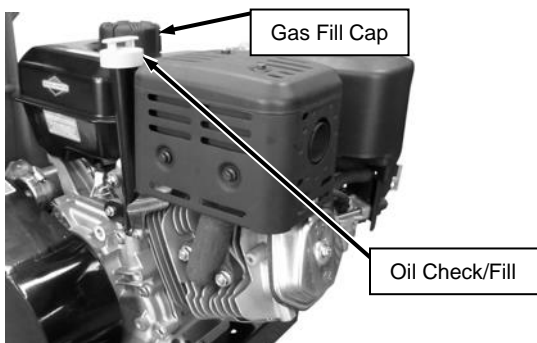

Figure 20a: WC475 Model
- Place the machine on a level surface and remove the Dipstick (clean the end of the Dipstick with a rag) (**Figure 20a and 20b**).